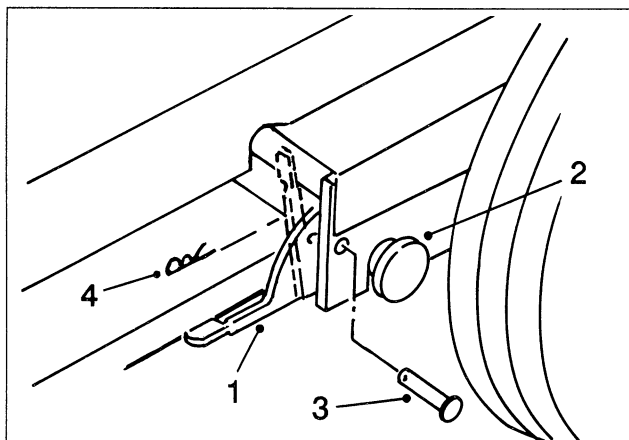

Figure 12
- Lock it in position by pulling the latches down (Fig. 12). Install the keeper pins and hairpin cotters.